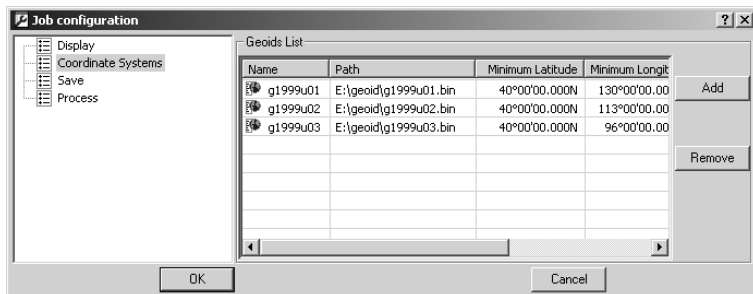

Figure 5-15. Job Configuration – Coordinate Systems
- To view, add, or remove available geoid files, click Coordinate Systems in the Job Configuration dialog box (Figure 5-15).